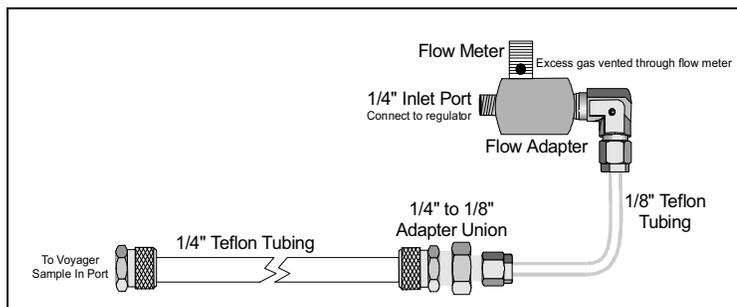

Figure 9 Connecting the Calibration Flow Adapter
3. Connect the tubing from the flow adapter to the adapter union (1/4" to 1/8"), as shown in Figure 9.